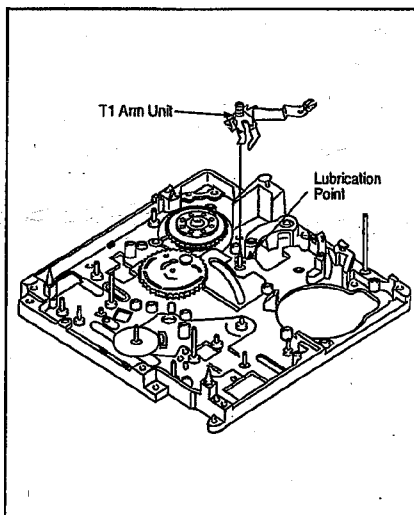

Fig. M27
- Fig. M27 Remove the T1 Arm Unit.